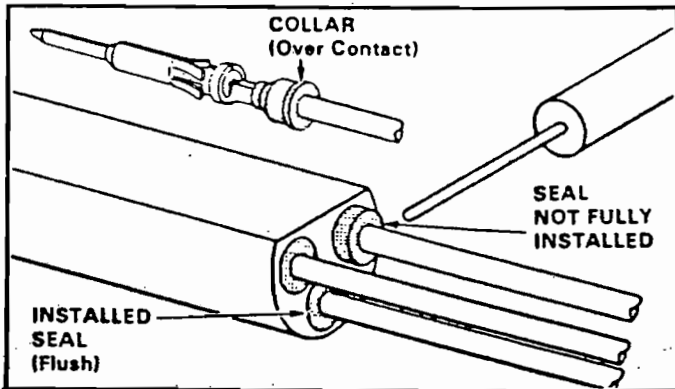

Fig. 5
2. Using a twisting motion, back seal off contact until collar appears — do NOT remove seal from contact. See Figure 5.
4. Check seal to be sure it is flush with the back of housing. If it is NOT flush, seat it with a round-tip tool. See Figure 5.